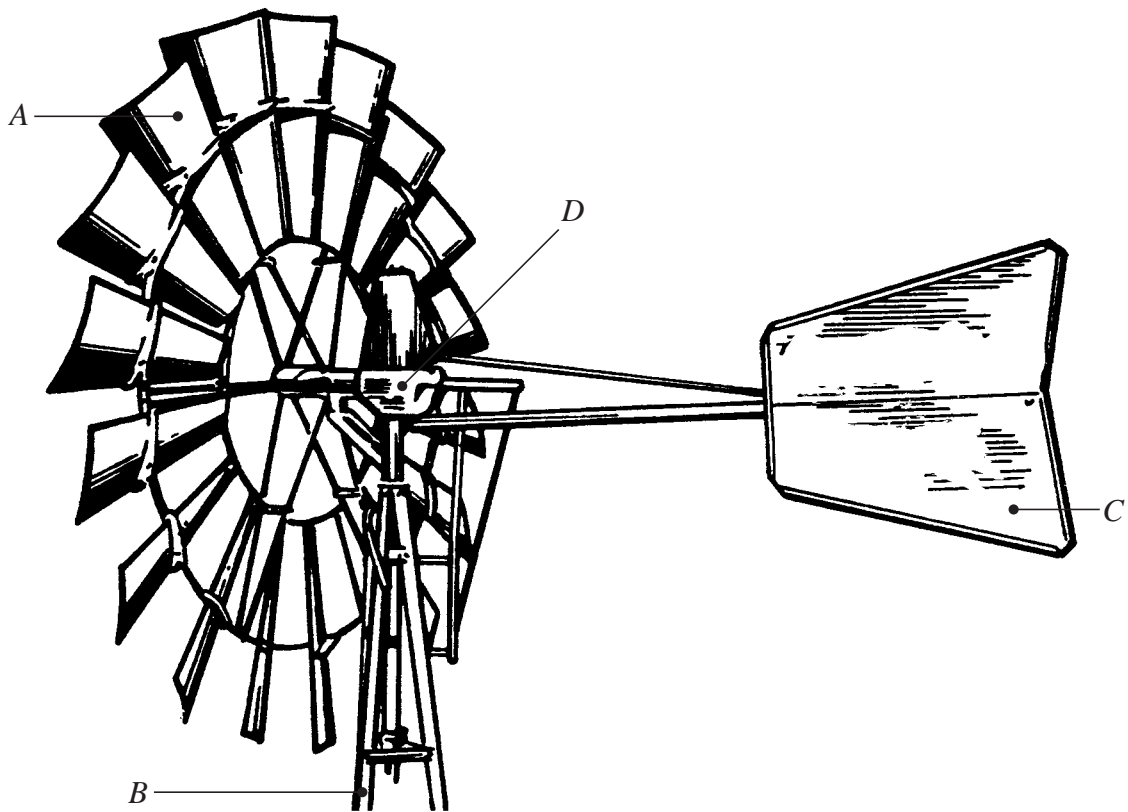

FIG. 13
- (a) Figure 13 shows a common windmill. In the spaces provided, name and describe the function of the parts indicated.